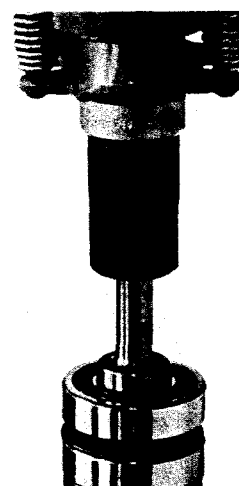

Fig. 8-7, (N10888). Press shaft into bearing
1. Position rear grease seal (11), FFC water pump only, on ST-1191 Seal Driver with seal lip toward driver. Support the impeller side of water pump housing (13) and press grease seal into water pump bore until it seats.
2. Lubricate shaft (10) bearing surface with a thin coat of clean lubricating oil. Using ST-658 Bearing Mandrel to support the inner bearing (9), press pulley-end of shaft through bearing until the shaft shoulder seats tight against bearing race.
3. Install the small snap ring (8) on shaft, securing bearing (9).
4. Support outer bearing (6) on ST-658 Bearing Mandrel. Position bearing spacer (7) on shaft and press shaft through the bearing until spacer seats firmly against bearings. Check to see that both bearings turn freely. Fig. 8-7.